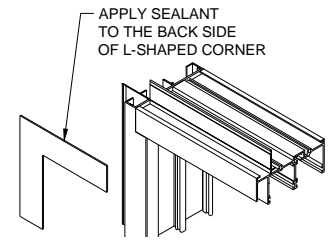
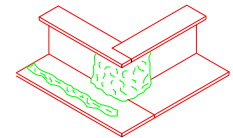

Figure 2a
Figure 2b
4. Non-porous, non-absorbent, inorganic shims are then required to be applied to the framed opening sill to support the window and maintain it in a straight and level condition and to prevent rotation. Apply sealant to the back side of the L-shaped aluminum corner pieces (if required) and attach to the exterior face of the nail-fin at the corners as shown in figure 2a. Apply a continuous ½" bead of sealant to the backside (interior) of the nail-on flange at the head and jambs only. Do not apply sealant on the backside of the nail-on flange at the sill. **IMPORTANT:** Apply a heavy bead of sealant to the interior side of the mounting flange (nail-fin) where the window frame jamb and sill join. Sealant must cover the entire joint (from the flange to the inside leg of the window) and extend 1½" up the jamb and along the sill. (See Fig. 2b).